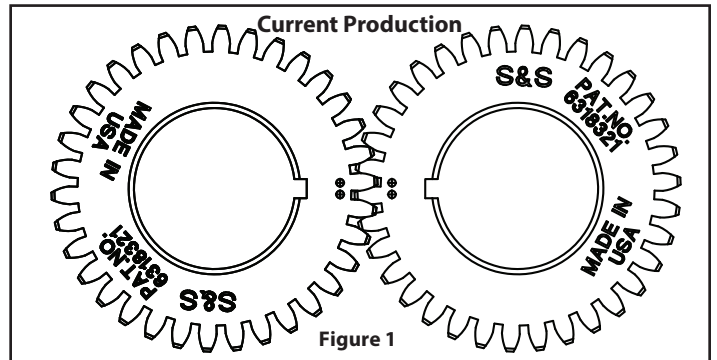
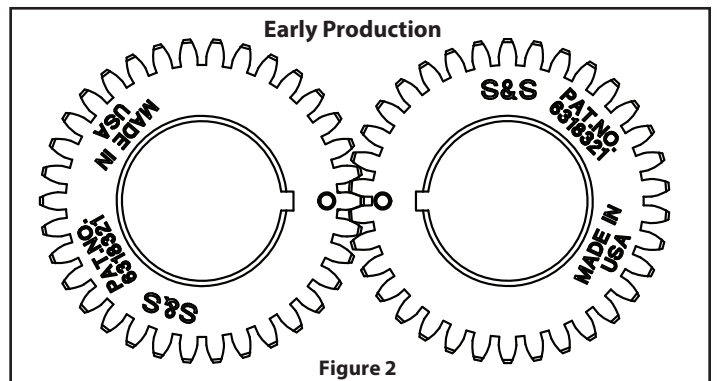

Figure 1
Figure 2
7. Slide the rear cam into place aligning the timing marks on the back of the cam gears. See **Figures 1 and 2**.
*NOTE: Current production S&S Gear drive camshafts have timing marks shown in **Figure 1**. Older S&S gear drive camshafts, have the timing marks shown in **Figure 2**. Cams with early and late gear styles must not be used together.*